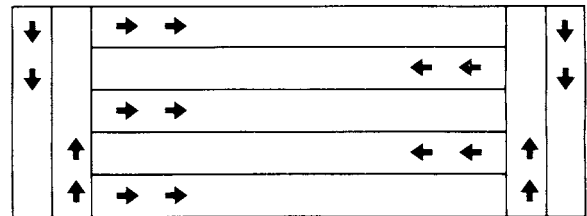

FIGURE 26
4. For easiest application, first apply material across both ends of the area. Two or three passes on each end are sufficient. Then apply material back and forth as shown. Use the end areas for turning around, shutting off the spreader as you enter the end areas and turning the spreader on again as you leave the end areas for your next pass. See figure 26.